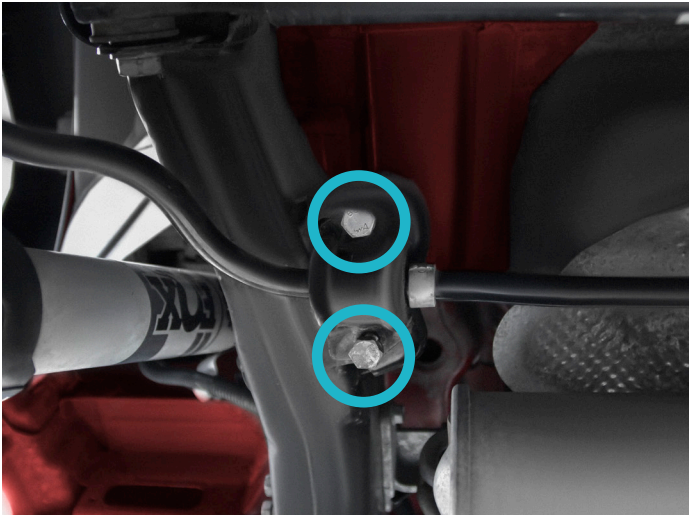

Fig.1
1. Unscrew sway bar mounting brackets bolts on both sides of the vehicle (fig.1).